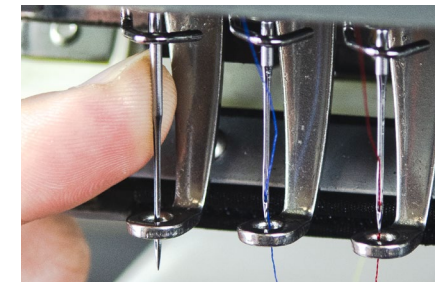

Figure 114
4. Needles have a long groove on the front and a short half-moon-shaped section called the scarf on the rear. With the long groove facing the front of the machine, insert the new needle by placing the point through the presser foot, and inserting the shank into the needle bar. **See Figure 114.** Refer to the needle diagram on page 53.